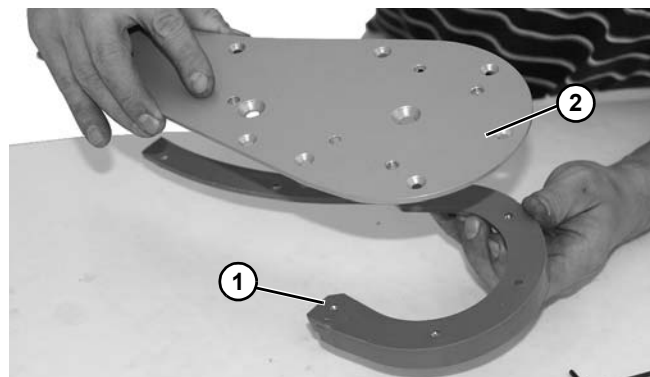

Figure 136
2. Remove retaining guide (**Figure 136, item 1**) from idler head plate assembly (**Figure 136, item 2**). Replace components, as needed.